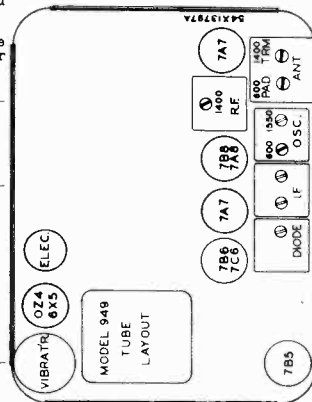

Figure 1 - Trimmers
1. Connect the signal generator to the control grid of the Osc.-Mod. tube (6A7) through a .1 MfF condenser, having first removed the grid cap from the top of the tube. Connect a 500,000 ohm leak resistor from the grid of the tube to the grid cap just removed from the tube. (See Fig. 1.) Turn the condenser gang completely out of mesh. Connect an output meter across speaker voice coil.
All stage-gain measurements must be made with the volume control set for full volume. The shielded lead from the signal generator is connected to the top grid terminal of the tube through a .1 MF condenser, with a 500M Ohm resistor connected as a leak resistance between the grid of the tube and the grid cap which has been removed. (See Fig. 1 on Page 1.)